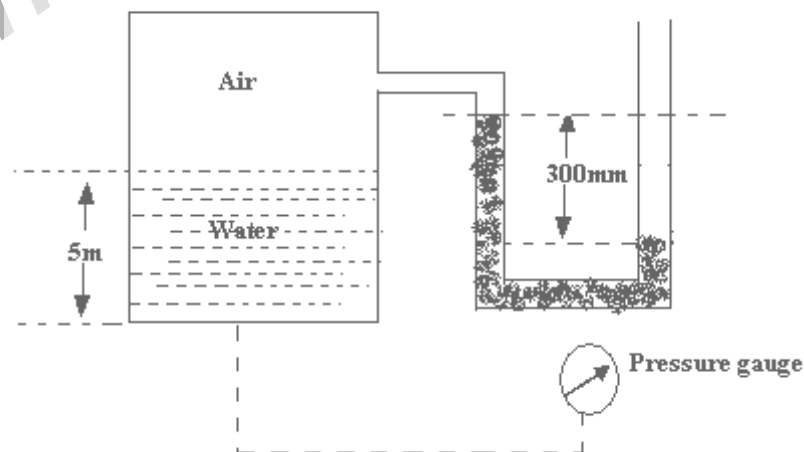

Figure 2b
- (b) A pressure gauge is fitted at the bottom of a closed vessel to which a simple manometer is also fitted as shown in figure Determine the reading indicated by the pressure gauge if manometric liquid is mercury. (figure2b) [8+8]